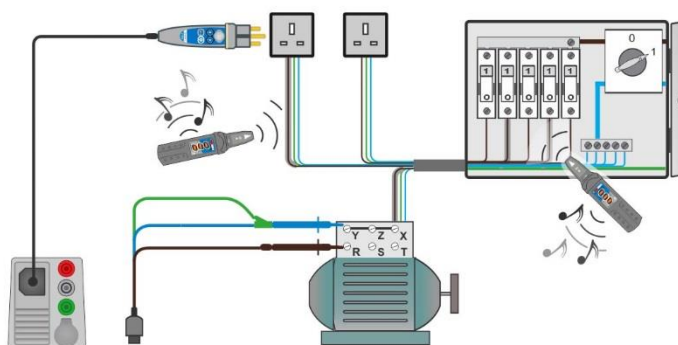
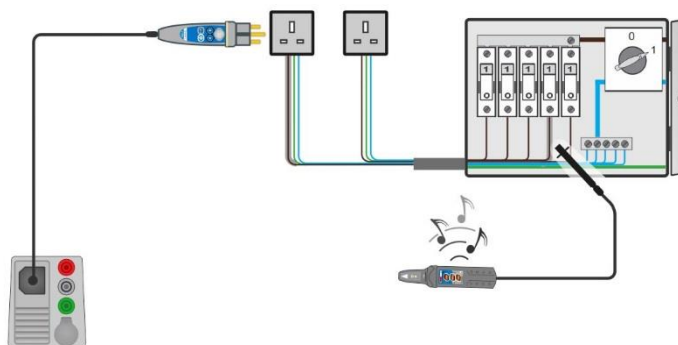

Figure 7.147: Tracing wires under walls and in cabinets
Figure 7.148: Locating individual fuses
- › Connect 3-wire test lead or Plug commander to the tested object (see **Figure 7.147** and **Figure 7.148**).